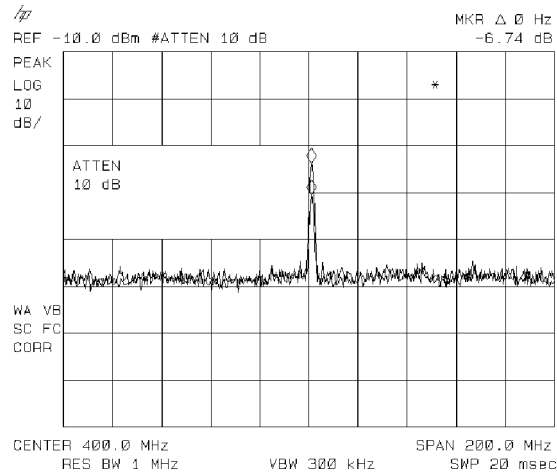
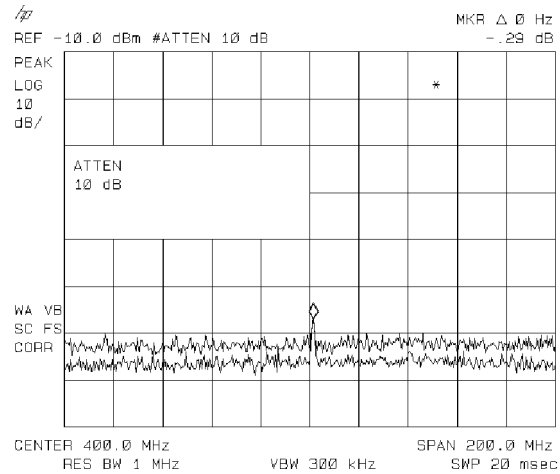

Figure 6-22. RF Attenuation of 10 dB
Figure 6-23. No Harmonic Distortion
5. Next, increase the RF attenuation by 10 dB: press **[AMPLITUDE]**, **ATTEN AUTO MAN**, and the step-up key (**[↑]**) once. (See Figure 6-22.)
If the responses in trace A and trace B differ, as in Figure 6-22, then attenuation is required. If there is no change in the signal level, the distortion is not caused internally. For example, the signal amplitude in Figure 6-23 is not high enough to cause internal distortion in the spectrum analyzer so any distortion that is displayed is present on the input signal.